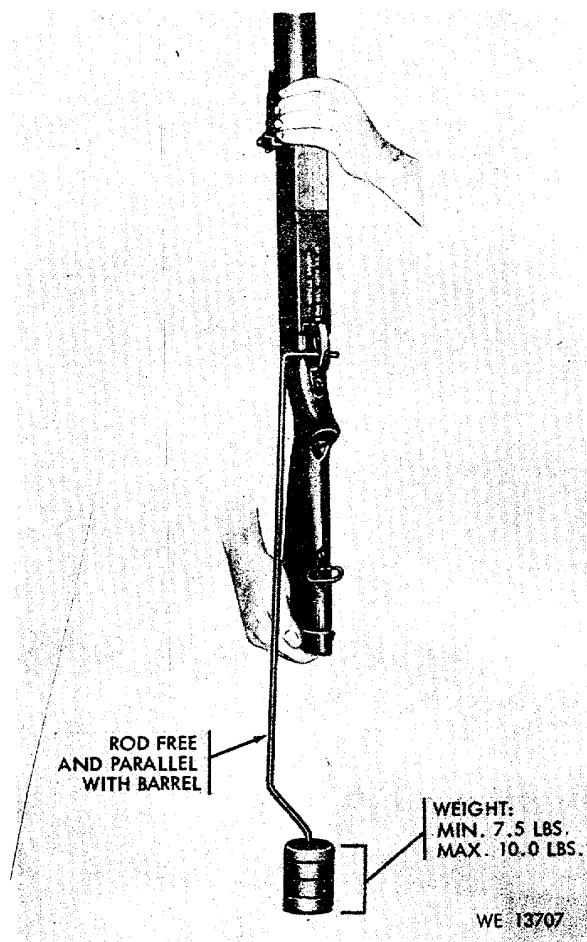

Figure 3-5. Measuring trigger pull with trigger pull measuring fixture ((4933-647-3696).
*b. Initial Inspections.* Materiel received in direct support and general support maintenance shops should be given a thorough technical inspection. Determination as to the extent and location of trouble will be made before repairs are started and only those necessary to properly condition the materiel shall be accomplished. Initial inspection procedures are listed in table 3-3, which includes figure 3-5.